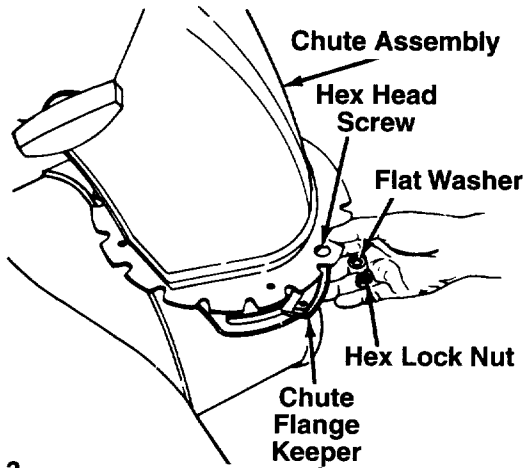

FIGURE 3.
2. Place chute assembly over chute opening, with the opening in the chute assembly facing the front of the unit. Place chute flange keepers beneath lip of chute assembly. Secure with hex head screws and hex lock nuts as shown in figure 3. Tighten with two 7/16" wrenches, then back off 1/4 turn to allow easier movement.